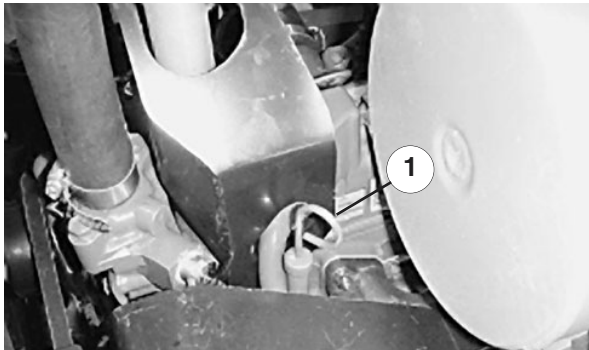

Figure 2
2. Remove the dipstick (Fig. 2), wipe it clean and reinsert it. Remove the dipstick and check the oil level. The oil level should be to the FULL mark on the dipstick